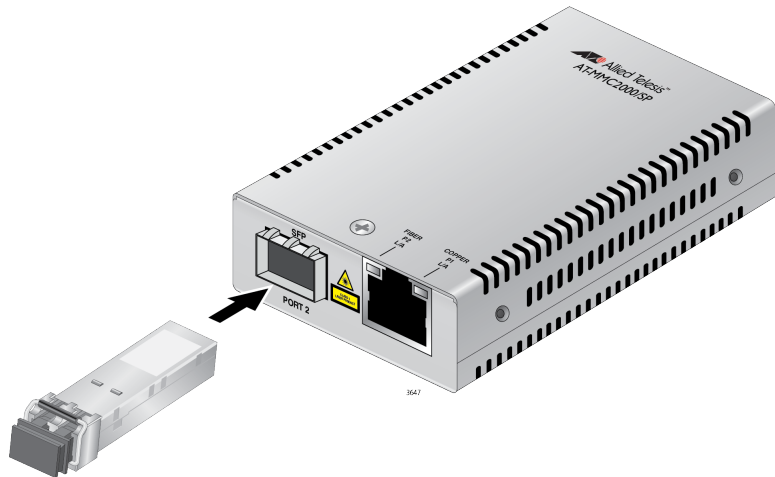

Figure 32. Inserting the SFP
- Slide the transceiver into the SFP slot until it clicks into place. See Figure 32.